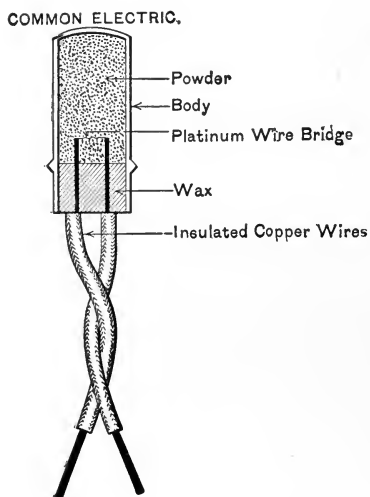

FIG. 36.
A. Two insulated wires entering the primers are joined by a platinum wire. (A little guncotton is sometimes imbedded around the platinum wire.) The current heats the platinum, which ignites a small charge of powder or fulminate, if it be a common electric, in the primer, which ignites the main charge. (See Figs. 36 and 37.)